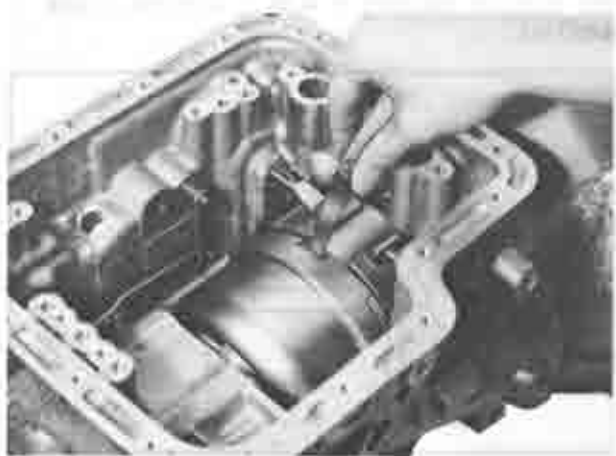

Fig. 7B-52 Checking end play
20. Using a dial indicator as shown in Fig. 7B-53, check the transmission total end play.